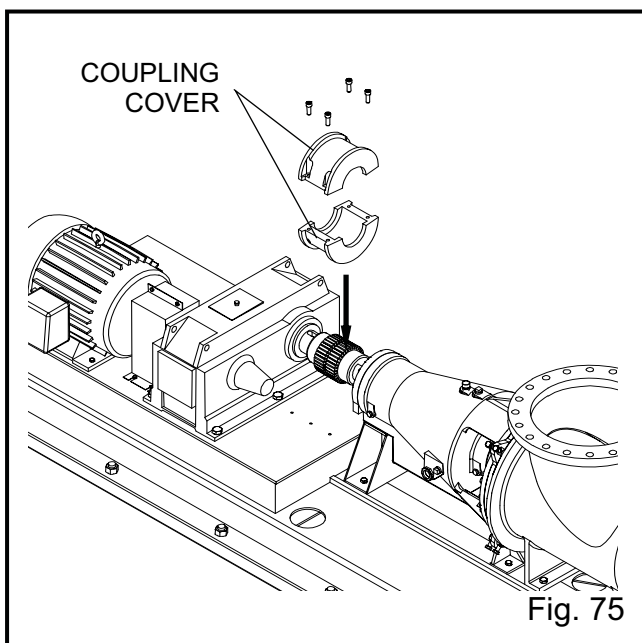

Fig. 75
27. Wrap the coupling cover around the coupling halves and install the fasteners that hold the coupling cover together, see Fig. 75.